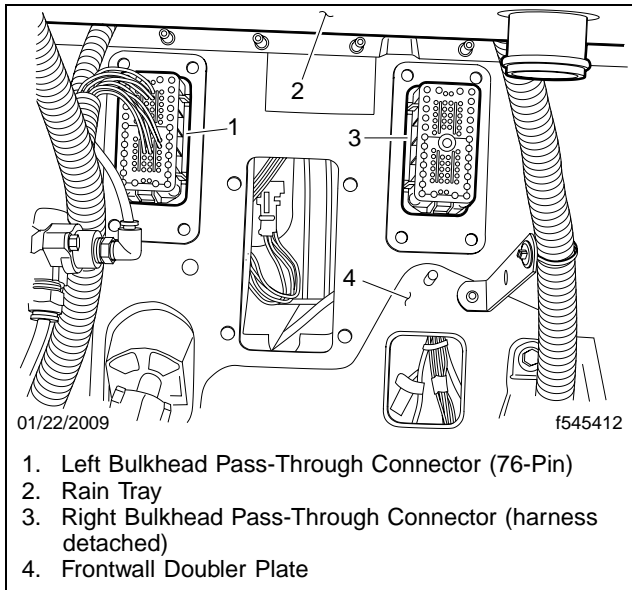

Fig. 13, Left-Side Frontwall
27. For vehicles in FL545B, replace the gaskets on both the 76-pin bulkhead pass-through connectors on the exterior frontwall, using the new gaskets from the kit, as follows. See **Fig. 13**.